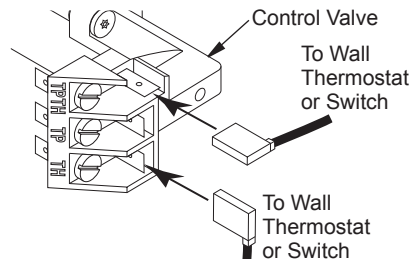

Figure 33 - Connecting Wire Terminals
2. Connect one terminal of 25 ft. wire to the “TH” terminal on the control valve. Connect the other terminal to the “THTP” terminal on the control valve. See Figure 33.
- Connect one terminal of 25 ft. wire to the "TH" terminal on the control valve. Connect the other terminal to the "THTP" terminal on the control valve. See Figure 33, page 19.